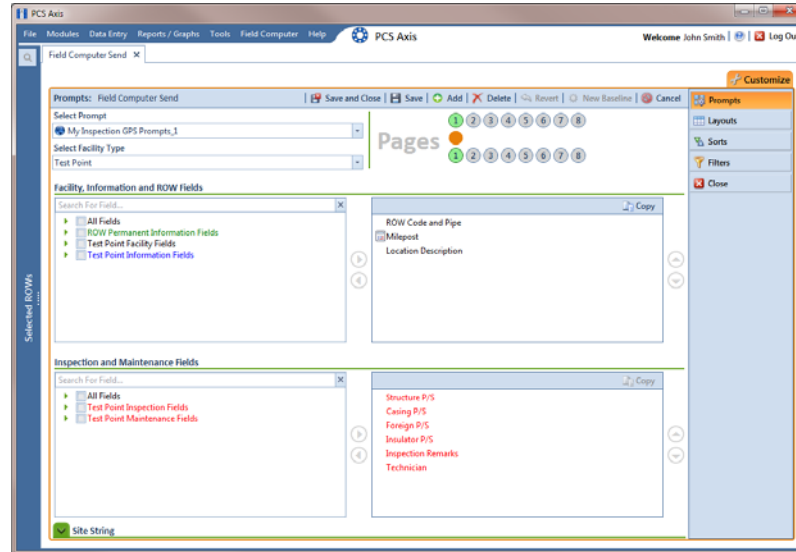

Figure 8-33. Prompts
- 9 Verify the name of the new theme displays in the **Select Prompt** field. If not, click the down arrow and select the theme in the selection list (Figure 8-33, page 384).
11 To add information prompts, follow these steps (Figure 8-33):
- a Click the  **Site String** and then double-click  **All Fields** in the left pane to view a list of fields available for selection (Figure 8-33, page 384).